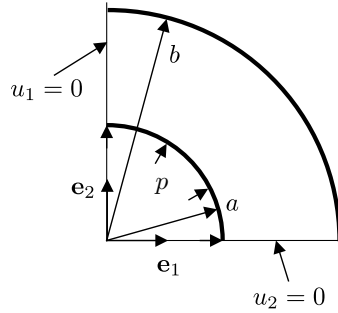

Figure 1: Schematic of the thick-wall pressure vessel showing quarter symmetry.
- Sketch the part as pictured in Fig. 1 and click Done.